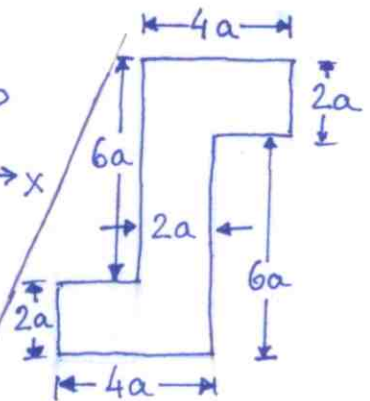

Fig. 3.
3. The cross-section of a prismatical member is shown in Fig. 3. Using the finite difference method with step size a , find the torsional rigidity (M/α) in terms of the shear modulus G , and a .